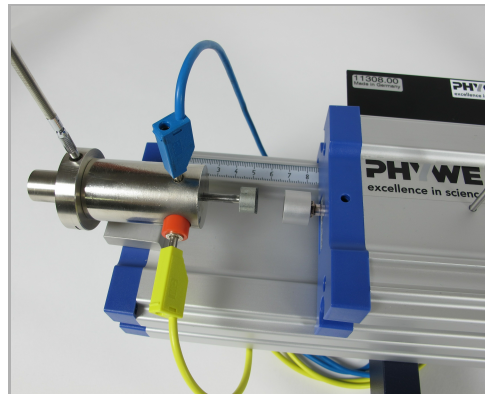

Fig. 2: Starter system for providing the necessary impulse
2. Position the starter system at the left end of the track. Please note that, in order to start the cart with an initial momentum, the starter system must be installed so that the cart receives an impulse from the ram of the starter system (Fig. 2).
4. Equip the cart with the magnet with a plug, a needle with a plug, and the shutter plate ($w = 100 \text{ mm}$) (see Figs. 2 and 4).